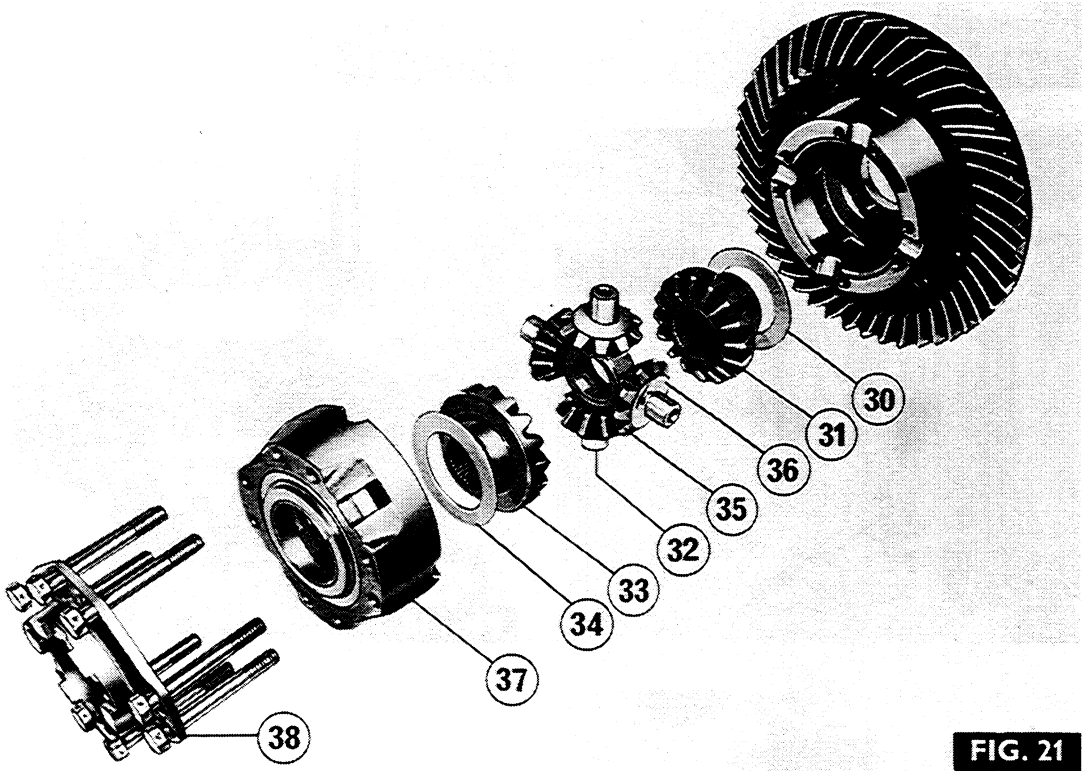

FIG. 21
6. Fig. 21. Lift out the R.H. differential gear (33) with its thrust washer (34), cross joint (32) and gears (35) with their thrust washers (36), then finally remove the remaining differential gear (31) and thrust washer (30).
1. Fig. 21. Refit the L.H. differential gear (31) and thrust washer (30) into the differential case followed by the cross joint (32) and pinion assembly (35) with thrust washers (36), then finally the remaining differential gear (33) and thrust washer (34).